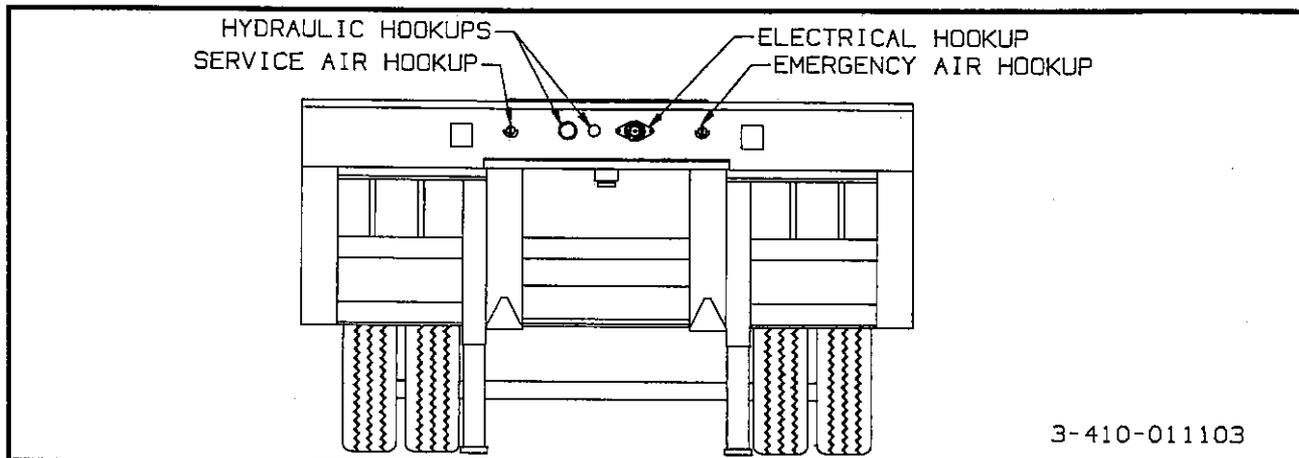

Figure 5-1 Service Hookups (Front View)
5-1.3 Connect the service and emergency air hoses of the towing vehicle to their respective *gladhand* on the front of the semitrailer; **red emergency line** to the gladhand with the "EMERGENCY" tag, and the **blue service line** to the gladhand with the "SERVICE" tag (see Figure 5-1). **Chock the trailer wheels** before activating the semitrailer air supply valve in the towing vehicle. **Set the trailer brakes.**
**5-3.1** Connect the towing vehicle 7-way electrical plug to the electrical receptacle on the front of the semitrailer (see Figure 5-1).